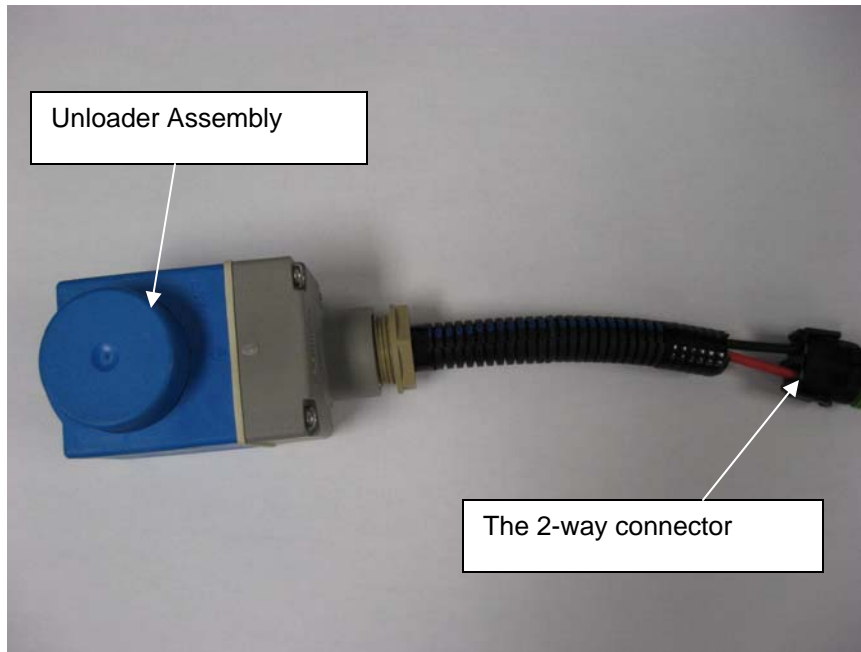

Figure 6
1. Disconnect the 2-way Weather-Pack connector between Unloader Assembly and Compressor wiring harness. Remove the Unloader Assembly from the compressor. (see figure 6)